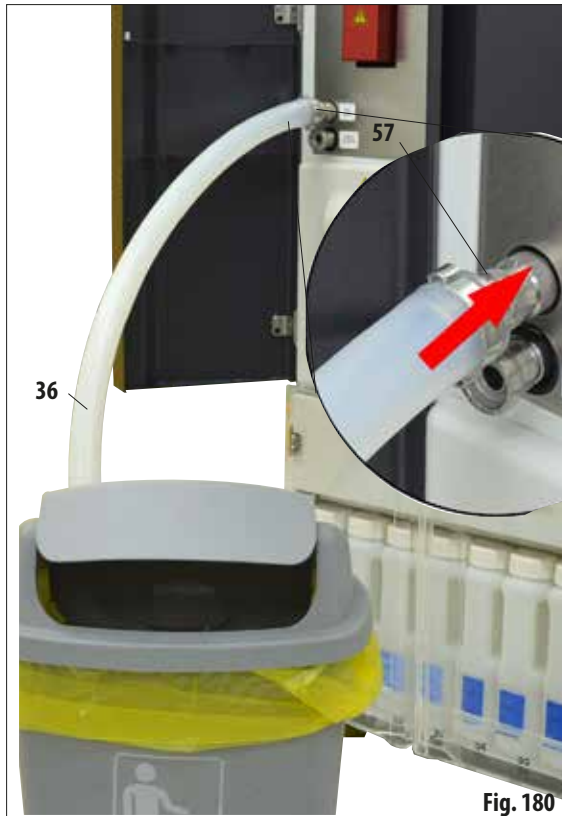

Fig. 180
- Connect the paraffin drain hose (36) to the spout (57) of the paraffin drain on the front of the instrument and guide it into a catch tank (Fig. 180).